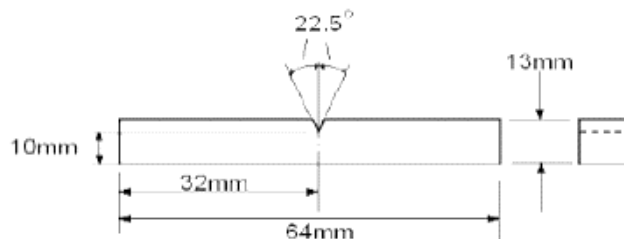

fig.13.1: Izod impact test specimen dimensions
5. At its topmost height after breaking the specimen, the indicator stops moving, while the pendulum falls back. Note the indicator at that topmost final position as shown in fig.13.1